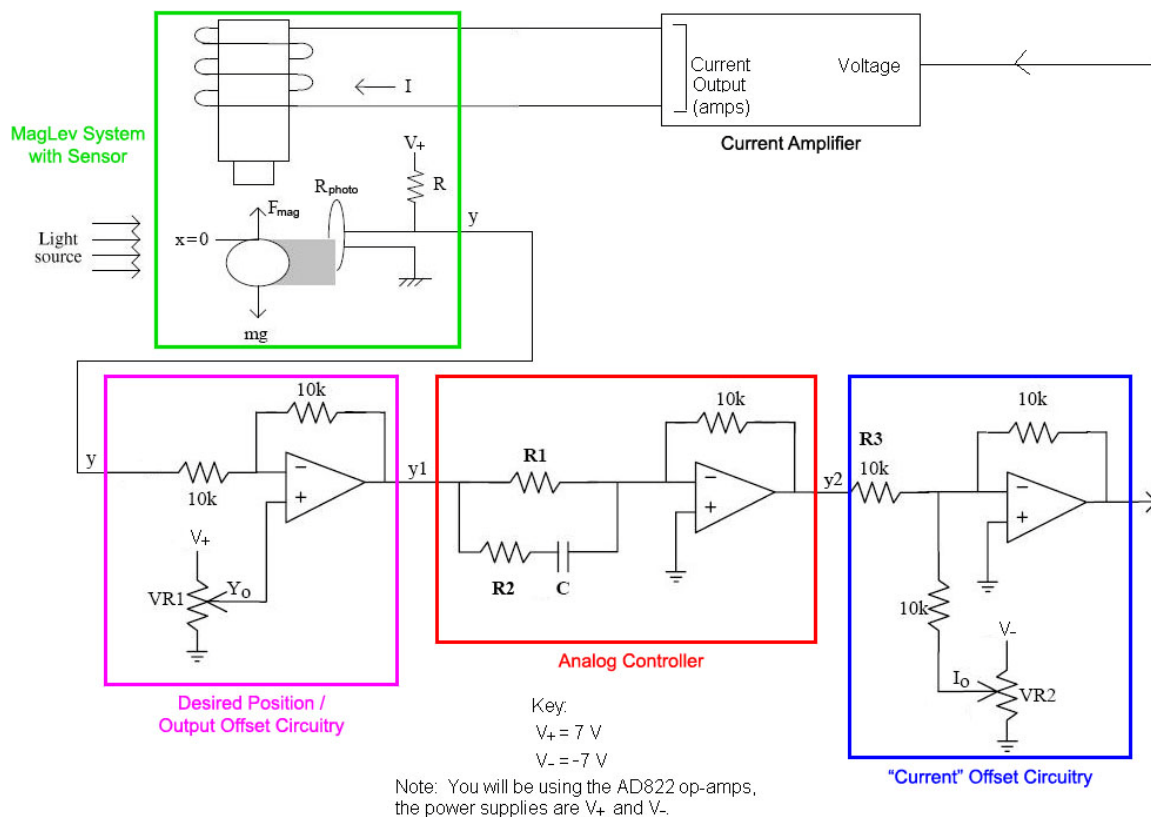

Figure 3: Circuit diagram of entire system. You will be picking values for R_1 , R_2 , and C to stabilize an equilibrium point.
Figure 3 shows the block diagram with circuit level details:
6. Derive the relationships (or transfer functions) between the input and output of the following subsystems in Figure 3: Desired Position / Output Offset Circuitry, Analog Controller, Current Offset Circuitry.
2. Measure and report the range of variation of the resistance of the photo-resistor as the ball's shadow covers from none to the entire resistor surface. Using this data, determine a suitable resistor value R to use in series with the photo-resistor (see green System box in Figure 3) given that $V_+ = 7V$ and we want to make it as a voltage divider to determine our output. The value of R you picked should make that the values of y seen for values of x around the equilibrium point would be comfortably within the $0 - 7V$ range. (Note: the photo-resistor will break if it ever exceeds 250mW power dissipation although this limit would probably not be reached in practice.)
- Place the ball at the zero position. Adjust the potentiometer in the "Desired Position / Output Offset Circuitry" in Figure 3 such that $y_1 = 0$.